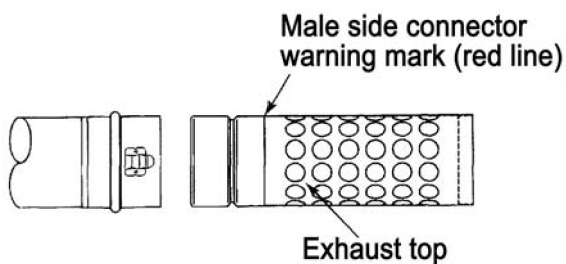

Figure 6
- b) Connect the exhaust top and KP pipe by sufficiently inserting the exhaust top until the male side connector warning mark (red line). Refer to Figure 6. A clicking sound will be heard when the top is connected properly.
- 1) When connecting the KP pipe, sufficiently insert the top until the warning mark (red line) on the male connector side becomes hidden. A clicking sound will be heard when the top is connected properly. Refer to Figure 6.